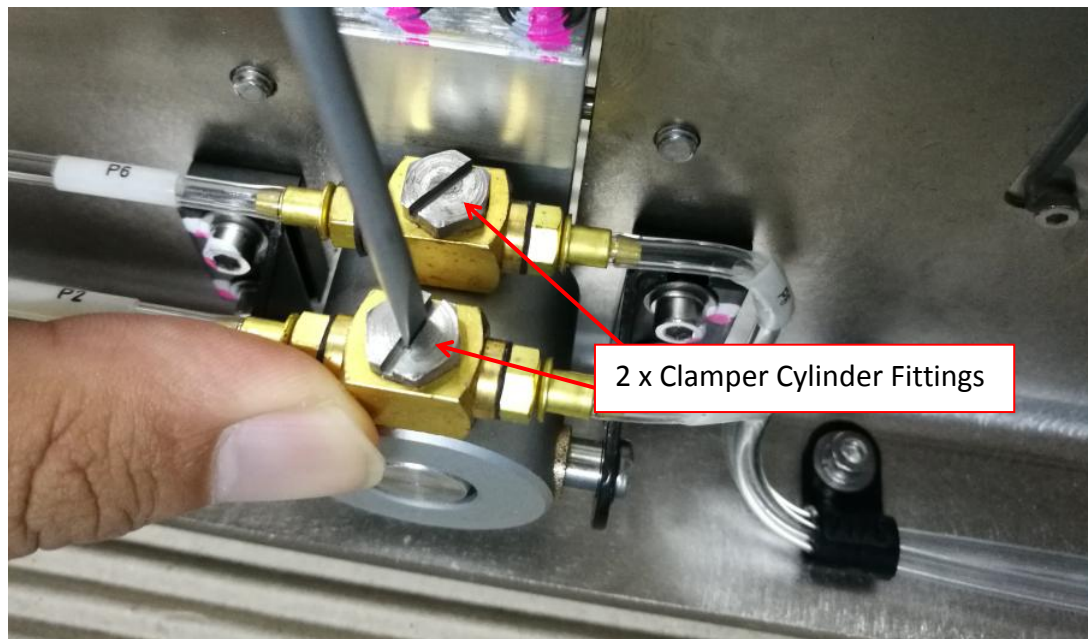

Figure 3 Clamper Cylinder Fittings
4. Loosen 2 x Screws. Remove 2 x Clamper Cylinder Fittings as shown in Figure 3.